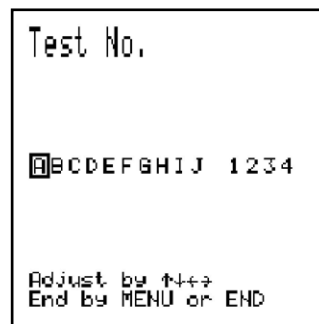

Fig. 4.3 Menu "Test number"
- At the start of a measurement series, you can enter a label consisting of up to ten letters, space and/or symbols , ; , - , _ including a four digit number, e.g. name of building, floor no. , element no. (see fig. 4.3).